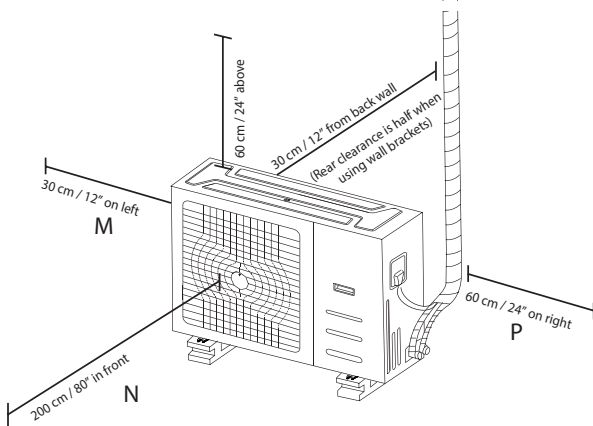

Fig. 6.8
**NOTE:** The minimum distance between the outdoor unit and the walls described in the installation guide does not apply to airtight rooms. Be sure to keep the unit unobstructed in at least two of the three directions (M, N, P) (See Fig. 6.8)